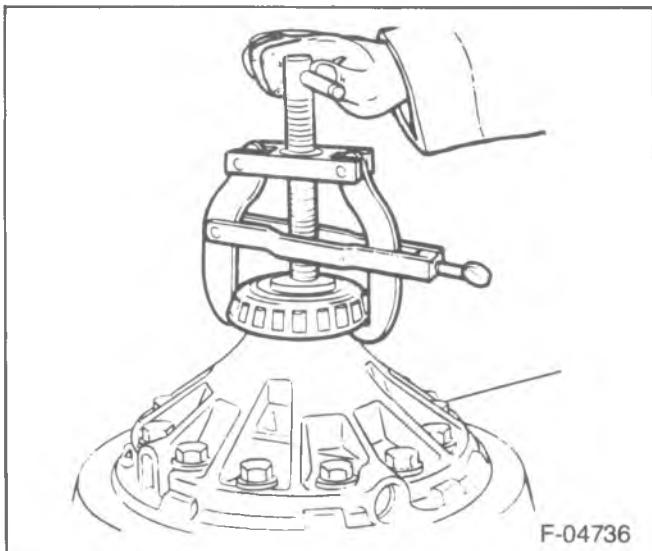

Figure 65—Removing the Differential Side Bearings
- 2. Axle shafts (47). Refer to the proper service manual.
- 3. Adjusting nut lock bolts (22).
- 4. Adjusting nut lock (21).
- Loosen the adjusting nuts (19).
- 5. Differential bearing cap bolts (28) and washers (27).
- 6. Differential bearing caps (20).
- 7. Adjusting nuts (19) and bearing cups (18).
- 8. Differential carrier (34).
- 9. Differential side bearings using J-23759-A and J-8107 (figure 65).
- 10. Ring gear bolts (36) and washers (35).